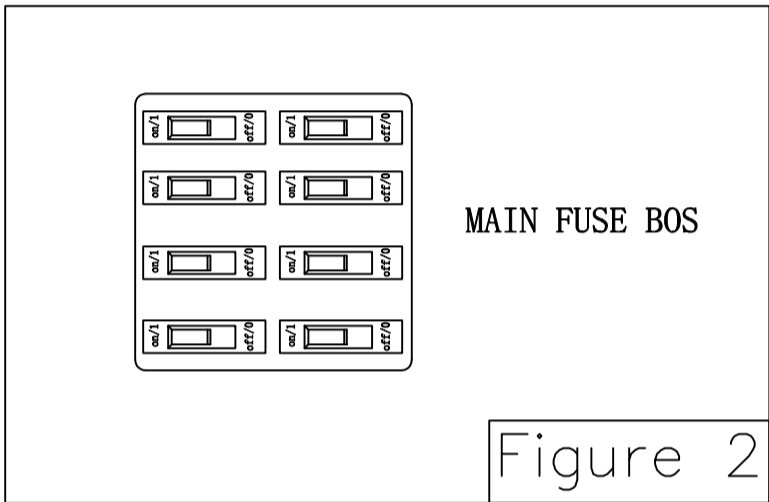

Figure 2
Securely attach and tighten the three "L" tabs of canopy screw cover over the three slots of canopy utilizing the key slot twist-lock feature. (Figure 2)
□ Restore electrical power to the outlet box by turning the electricity on at the main fuse box. (Figure 2)